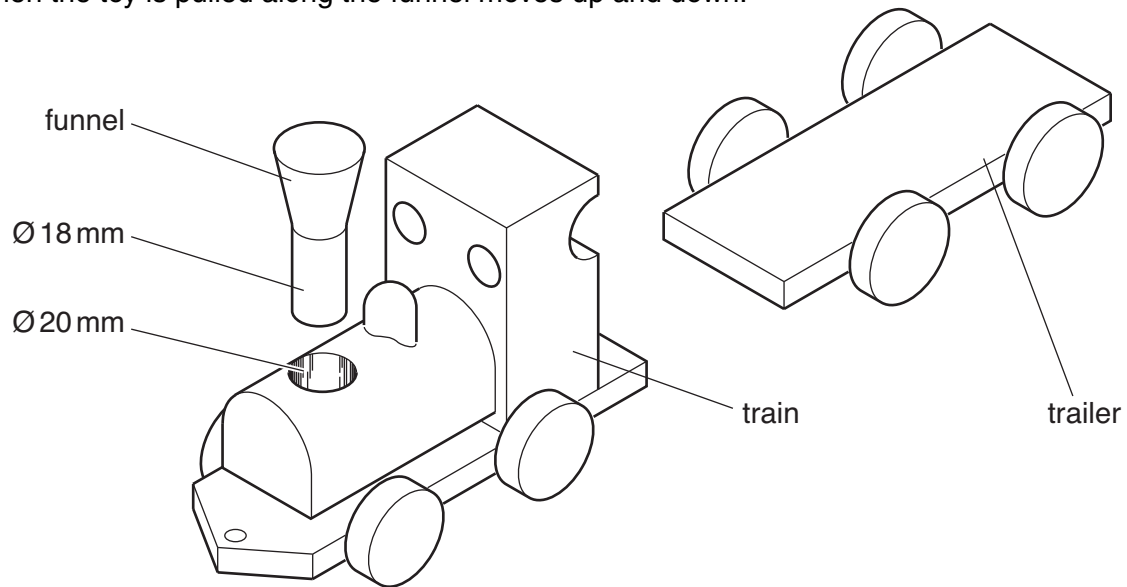

Fig. 5
- 5 Fig. 5 shows a design of a toy train and trailer to be made in a school workshop. The funnel is shown removed from the body of the train. When the toy is pulled along the funnel moves up and down.